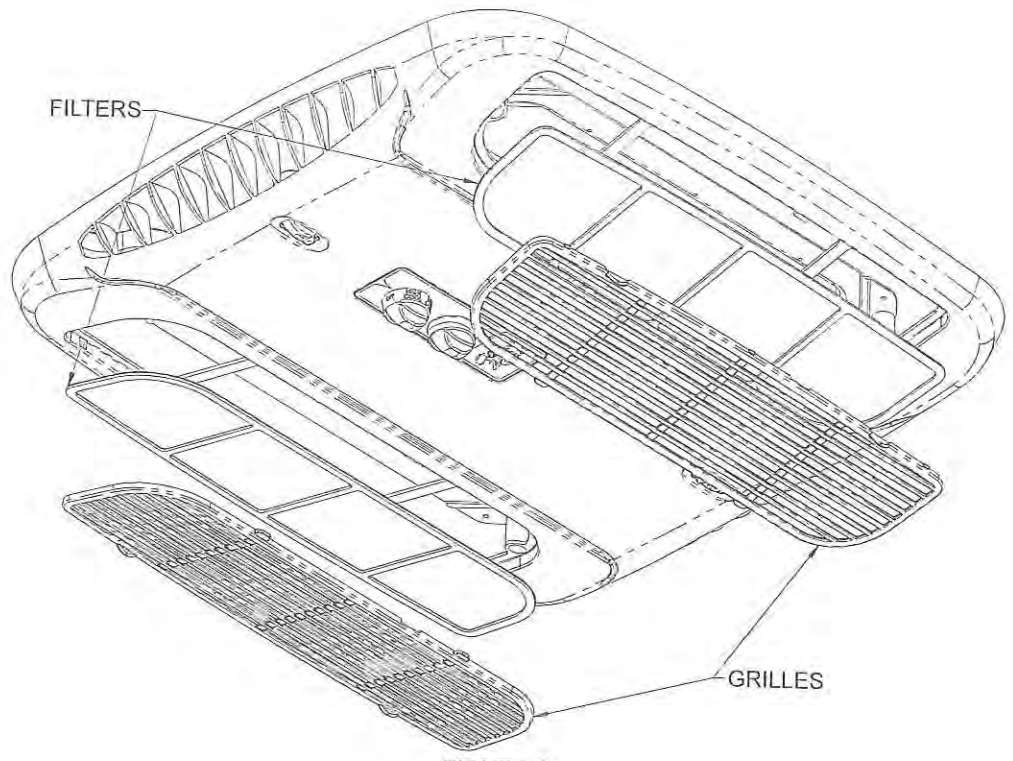

FIGURE 2
3. Re-install the filters and grilles in the ceiling assembly as shown in Figure 2.